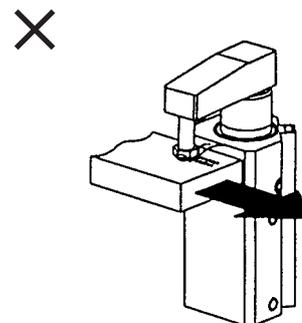

Figure 7
- ⑤ Do not operate the cylinder in such a way that an external force causes the workpiece to move during clamping (Fig. 7).
- ⑥ Furthermore, do not operate the cylinder in an application in which a rotational force will be applied to the piston rod.
① Do not operate the cylinder horizontally. ✗